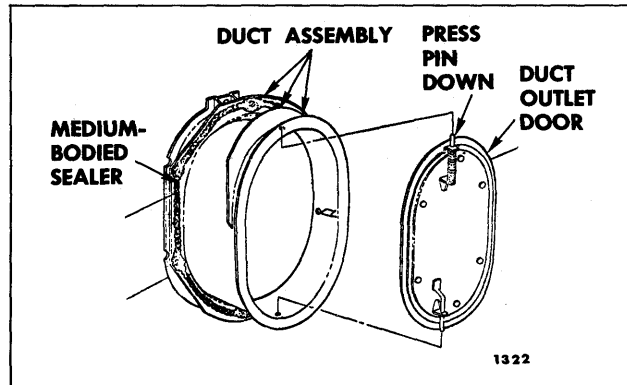

Fig. 5-4—Shroud Side Air Outlet Duct Assembly and Sealing
4. To install, apply a bead of medium-bodied sealer around the entire inner flange of outlet assembly (Fig. 5-4) and reverse removal procedure.
2. Depress upper pivot pin spring (Fig. 5-4) in door and remove door assembly.